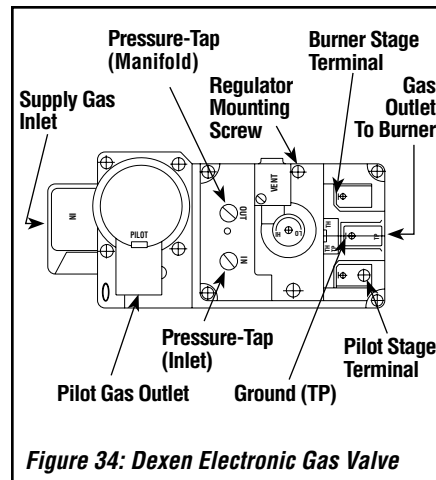

Figure 34: Dexen Electronic Gas Valve
Step 8. Dexen Electronic Valves: Refer to **Figure 34** and the instructions provided with the kit.